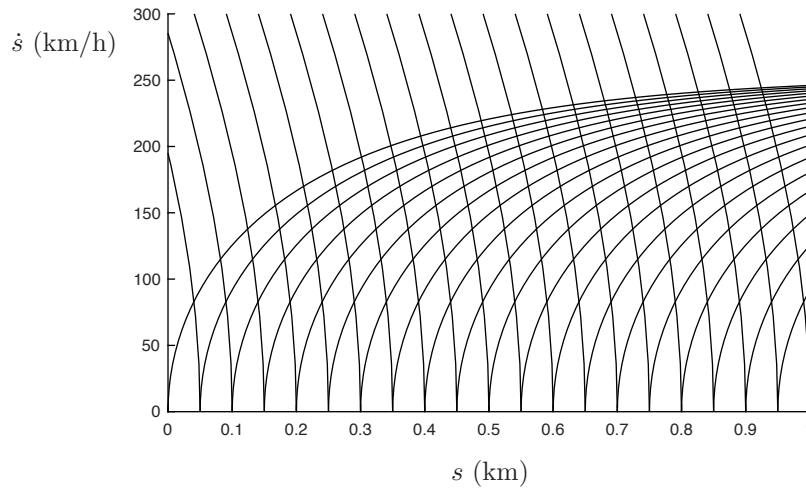

Figure 9.5: Time scalings corresponding to maximum acceleration and maximum deceleration.
- Figure 9.5 illustrates time-scalings of the path that correspond to maximum acceleration and maximum deceleration. Draw a line in this figure corresponding to the maximum speed of the car you found in part (a). Draw the motion cones at a few representative points. Approximately draw the time-optimal time scaling that takes the car to a stop at home